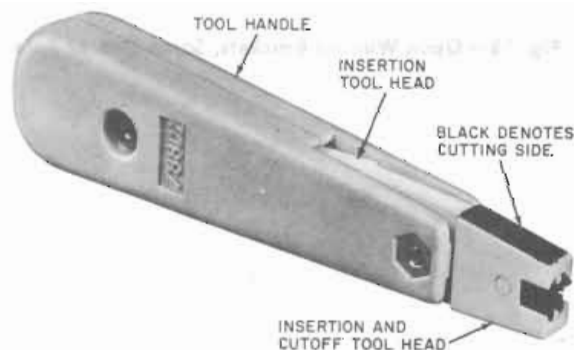

Fig. 1—788D2 Tool (One Pair Insertion Cut-Off Tool)
**1.08** The 788D2 tool (one-pair insertion cut-off tool), (Fig. 1), 88BB-1 waterproofing caps, and spool of 24-gauge F cross-connecting wire stored in interfaces are used for interconnecting feeder and distribution cables. *Use only tools and wire specified.*